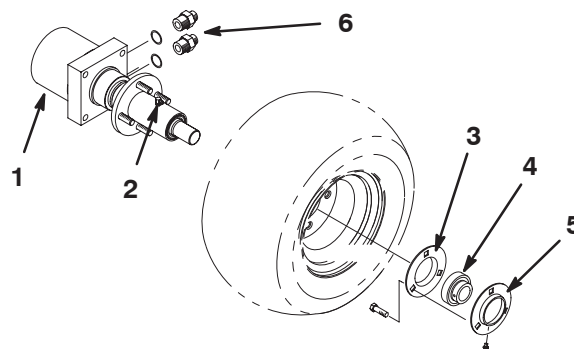

Figure 1
- A. Remove the capscrews and lock nuts securing the flangettes and bearing tab to the castor fork (Fig. 1).
- B. Remove both socket head screws, flat washers and lock nuts securing the hydraulic motor and hub assembly to the castor fork (Fig. 1).
5. Loosen both setscrews on bearing. Slide flangettes and bearing off the motor shaft (Fig. 1).
6. Remove the grease fitting from the hydraulic motor and hub assembly (Fig. 1). Remove four lug nuts and wheel assembly from the hub drive studs.